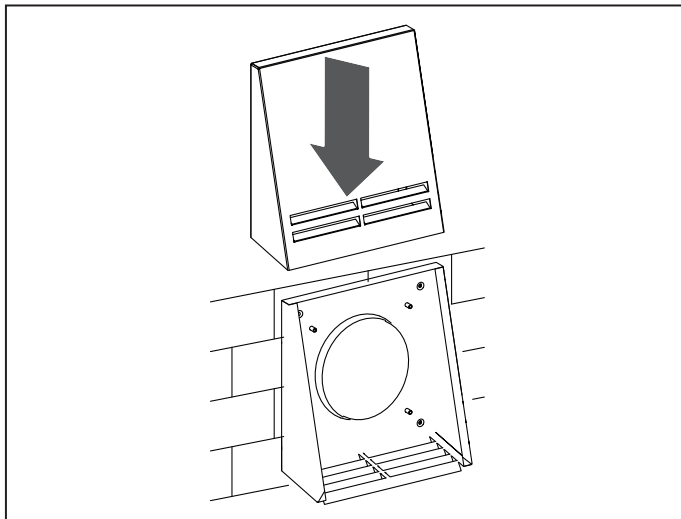

Fig. 14a.
- Fig. 14a – for the model VENTO A50 / A50-1;